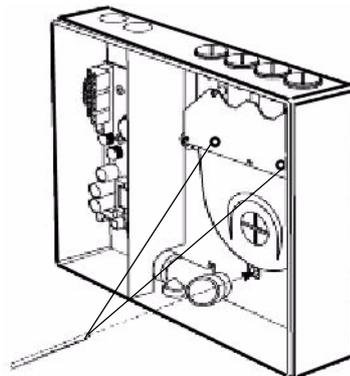

Figure 7: Removing Pipe Inlet Manifold during VLP and VLS chassis replacement
10. Remove the Manifold by sliding it downward, away from the pipe network as shown in Figure 7.
4. Remove the air filter cartridge, refer to Figure 7, "Removing Pipe Inlet Manifold during VLP and VLS chassis replacement," on page 16.